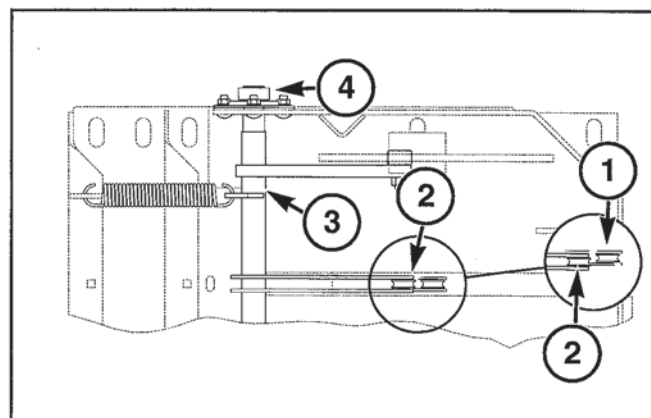

FIG. 116
FIG. 116: Check the alignment of the tucker arm rollers (2) to the needle tip rollers. (1). The alignment is correct when the tucker arm roller is offset to the left, up to one half the width of the roller. The offset to the left makes up for the way the twine feeds off the tucker arm roller onto the tip roller because of the twist in the twine. The tucker roller **MUST NOT** be offset to the right of the tip roller.